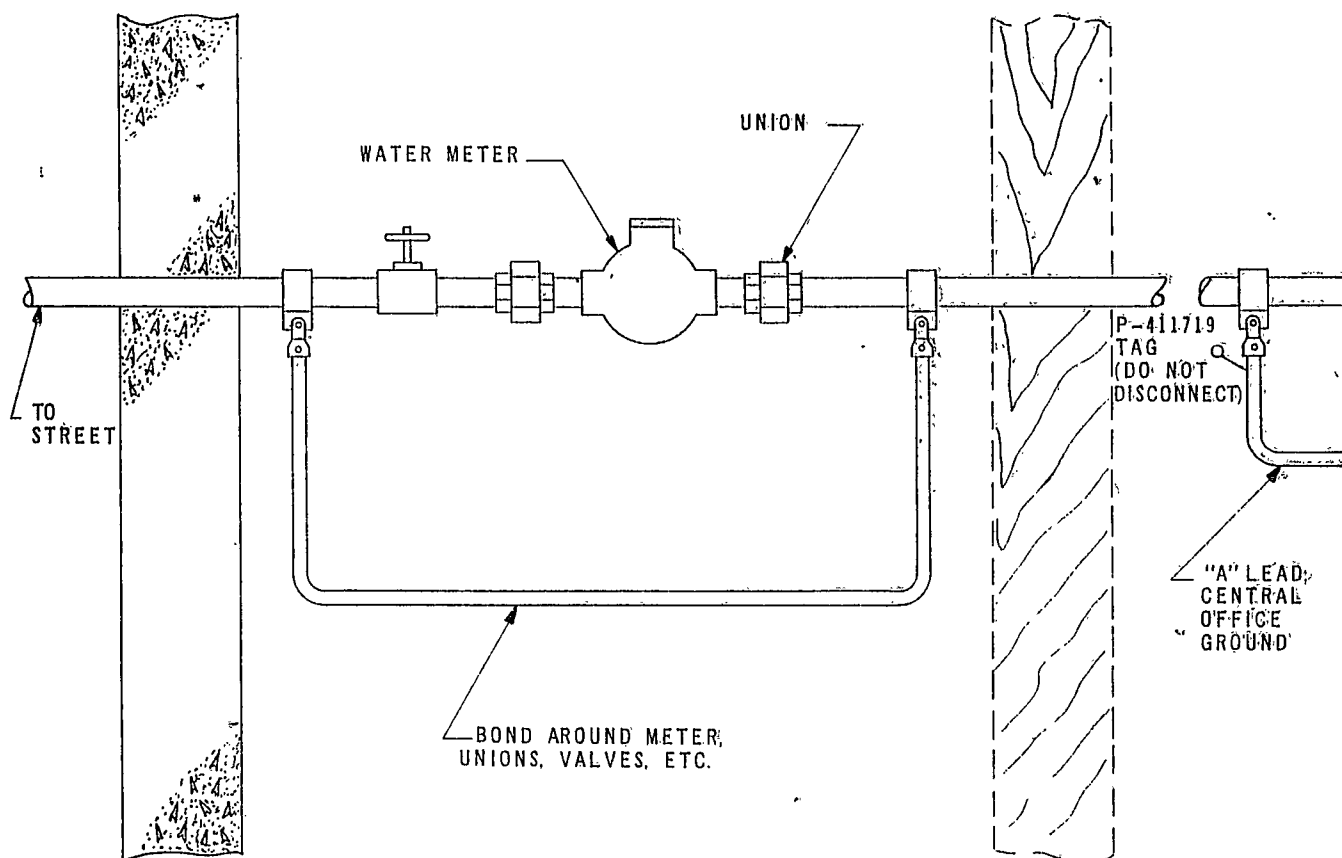

FIG. 5 WATER PIPE GROUND ARRANGEMENT WHERE IT IS NOT FEASIBLE OR ECONOMICAL TO CONNECT "A" LEAD TO STREET SIDE OF METER AND BOND IS REQUIRED (PAR. 5.45)
5.45 Where it is not feasible or economical to connect the "A" Lead to the street side of the water meter provide a bond around the meter and any gauges, valves, unions, etc., as shown in Figure 5. If the water meter has a by-pass arrangement similar to Figure 6 the bond is not required. Install the water meter bond in a manner similar to Lead "A", i.e., lead size, pipe clamps, lugs, etc. See Tables A and B.